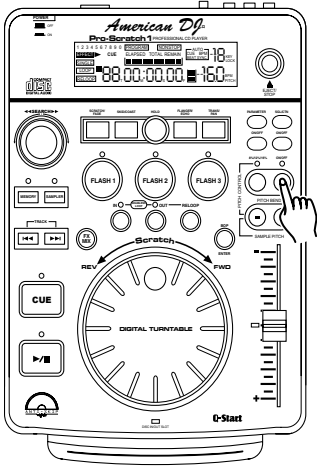

Figure 39
**Adjusting the Pitch Slider's Range (17):** You may change the pitch slider's (17) operating range. To change the operating range be sure the pitch function is turned on, see figure 39. The pitch percentage can be changed between 8%, 12%, and 16%. 8% will allow the least amount of pitch manipulation and 16% will allow the most amount of pitch manipulation. To adjust to the different values tap the 8% 12% 16% button (23). The LED above the **PITCH PERCENTAGE BUTTON** will indicate which pitch percentage mode you are in by, glowing green for 8%, glowing orange for 12%, or glowing red for 16%. Note, the pitch percentage must be activated to get a LED reading.